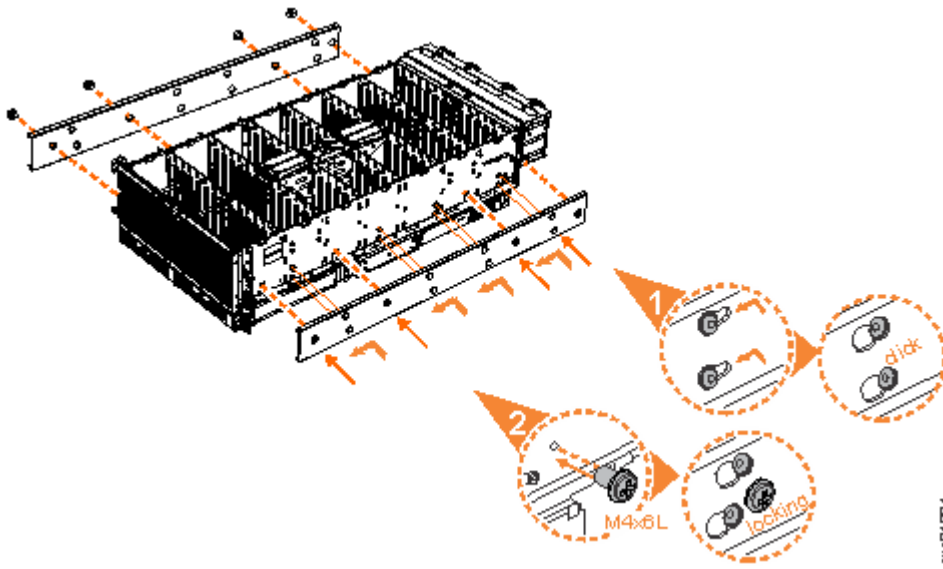

Figure 36. Attaching the inner rail section to the enclosure
5. Install the inner section of the rail onto each side of the expansion enclosure, as shown in Figure 36 on page 55.